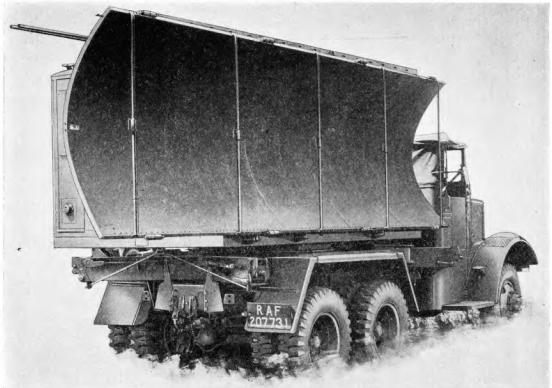
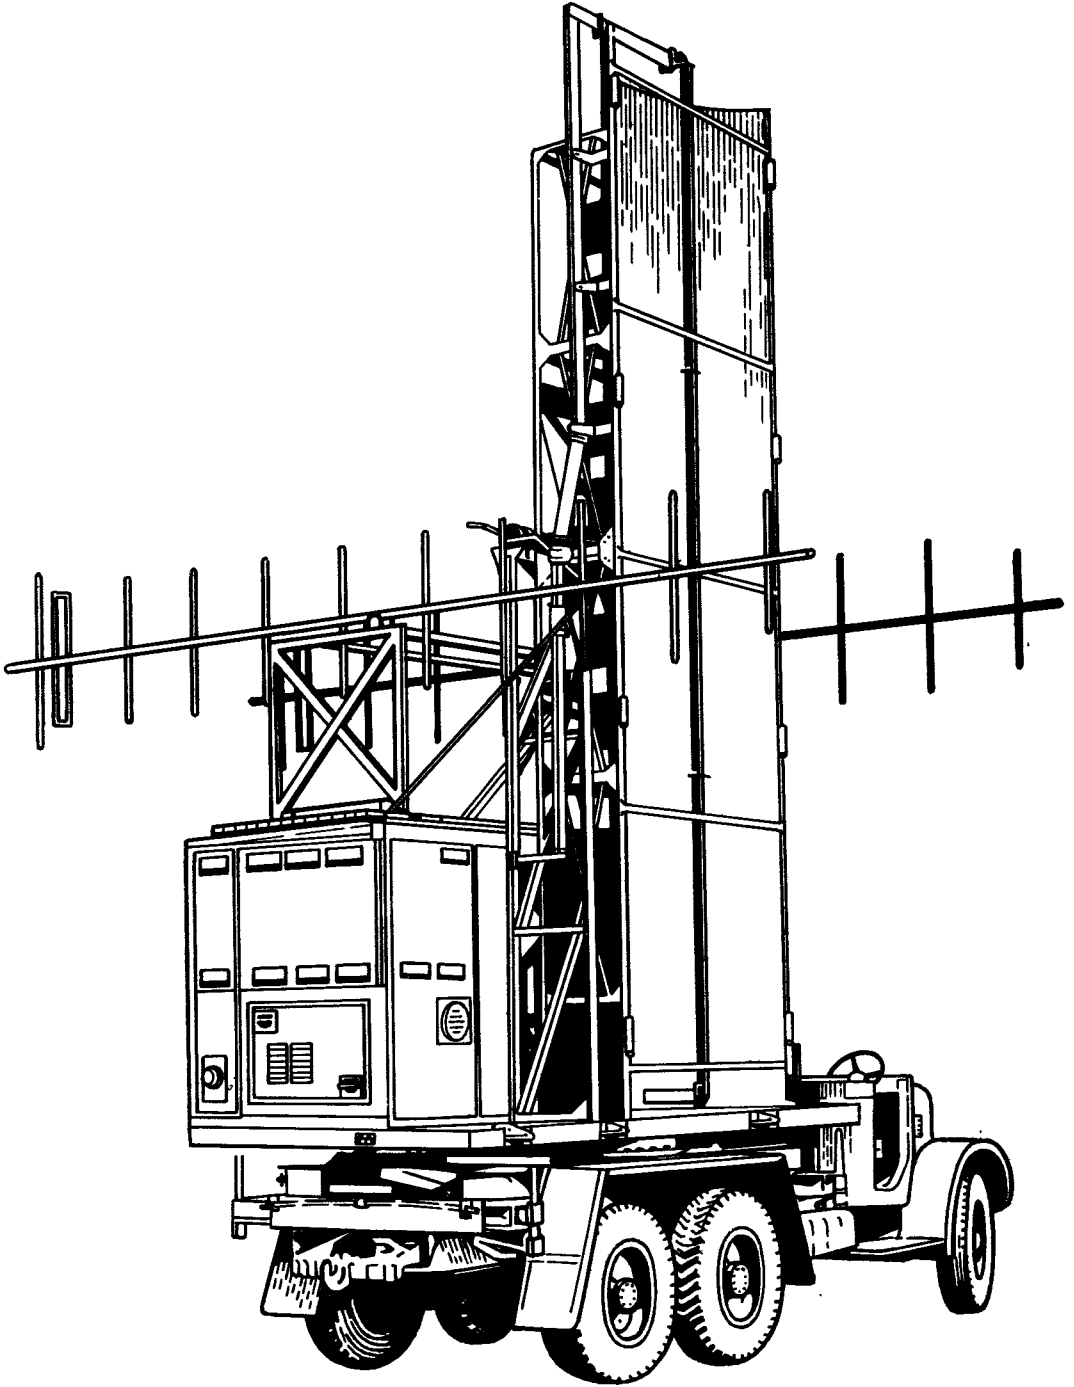
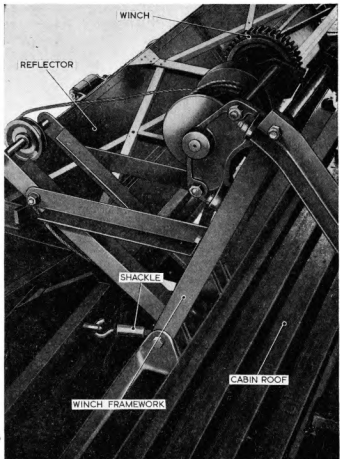
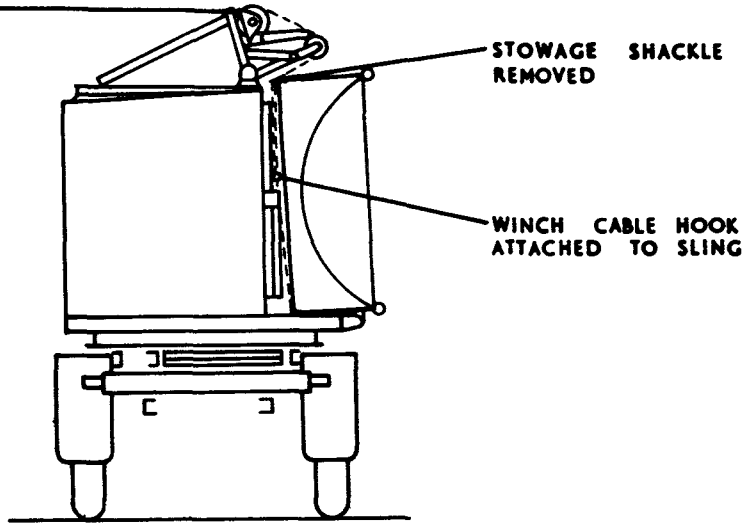

Fig. 24. R.V.461C in transit condition
Fig. 25. R.V.461C in operational condition
Fig. 26. R.V.461C : assembly of winch before lowering reflector
Fig. 27. R.V.461C : tackle in position for lowering paraboloid
31. Fig. 24 shows the vehicle in transit condition and fig. 25 shows it when operational with the aerial erected. The installation involves :—
- (1) Remove the ladder and the two wooden stays from their transit positions on top of the reflector.
- (2) Remove the shackle securing the reflector (fig. 26) ; the reflector will not fall.
- (3) Remove the IFF aerial rods and disconnect the IFF feeders from their dummy transit sockets on top of the container.
- (4) Lift up the two hinged sections of the IFF aerial supporting framework and fit one of the wooden stays between these sections at the back of the container remote from the reflector (fig. 25).
- (5) Unstrap the triangular section of the winch framework from the roof. Turn it over and bolt in position. The swinging legs of the frame fit into the
outer slots of the brackets (fig. 26) and the legs of the pulley section fit into the inner slots. Fig. 27 shows the erection complete to this stage.
**Lowering the reflector to the ground (fig. 26 and 28)**
- (1) Pass the winch cable over the pulley and attach the hook to the sling at the back of the reflector (fig. 26).
- (2) Keeping the winch cable fairly taut, push the reflector forward on its hinges until it is at the point of balance.
- (3) Take the weight of the reflector with the winch and lower the reflector on to